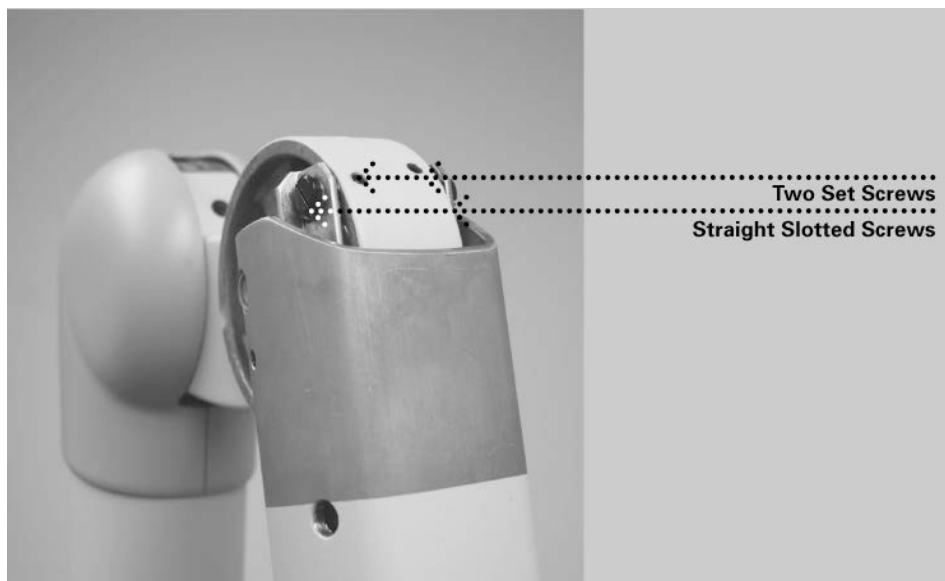

Figure 99
Follow this procedure **ONLY** if the yoke assembly does not stop on its own and makes contact with the horizontal arm. Refer to *Figure 99* while following the procedures below.
1. Loosen the two set screws highlighted in *Figure 99*, but do not remove them completely.
2. Loosen the two straight-slotted screws highlighted in *Figure 99* (the figure shows only one of the two screws – the other is located on the opposite side of the arm), but do not remove them completely.